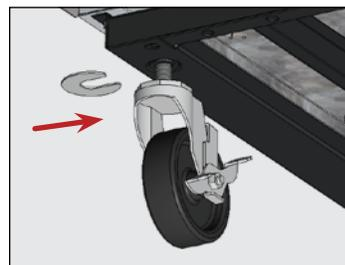

Fig. 9. Insert the castor shim(s). Be sure to tighten the castor stem.
5. On the low end of the appliance, loosen the castor bolt enough to slide provided castor shims between the castor bearing and the bottom rail of the appliance. See fig. 9.
6. Install the desired number of shims. See fig. 9.